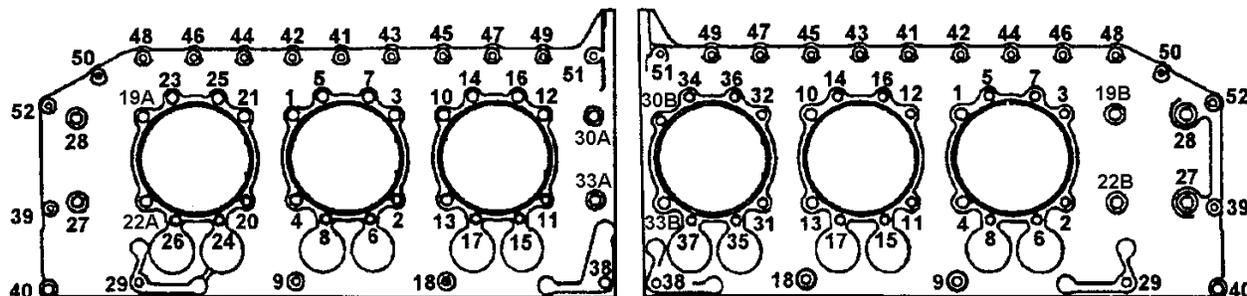

FIGURE 19-9. TORQUING SEQUENCE
See Figure 6-17, "Crankcase Attaching Parts." See Figure 19-9, "Torquing Sequence," for crankcase stud and through bolt hole positions.
5. After all cylinders have been installed, using the sequence shown in Figure 19-9, torque nuts at positions (1 through 52) to the following preliminary torques:
- Using the sequence shown in Figure 19-9, torque nuts at positions (1 through 52) to the following final torques: